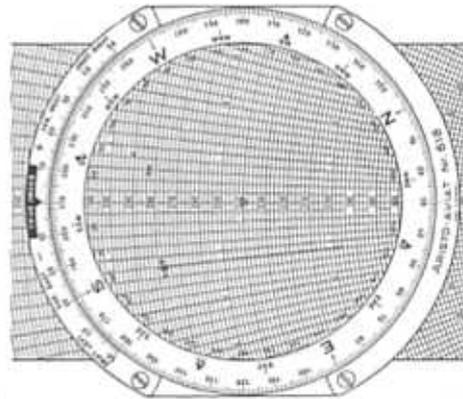
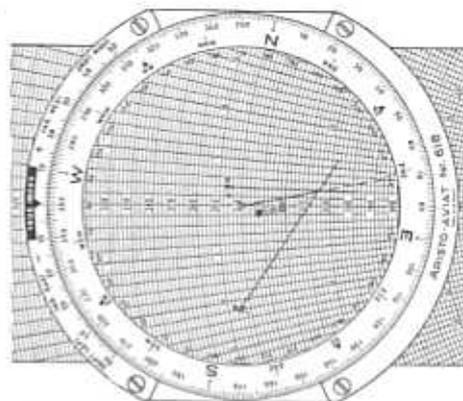

Fig. 51
Fig. 52
- (1) 240 kt under center bore,
- (2) 210° to TRUE INDEX (fig. 51),
- (3) Trace the -6° drift ray with a pencil.
- (4) Turn 260° under TRUE INDEX (fig. 52).
- (5) Mark the place where the +2° drift ray cuts the pencilled line.
- (6) Set the indicator to this mark.
- (7) Read the wind direction and velocity.